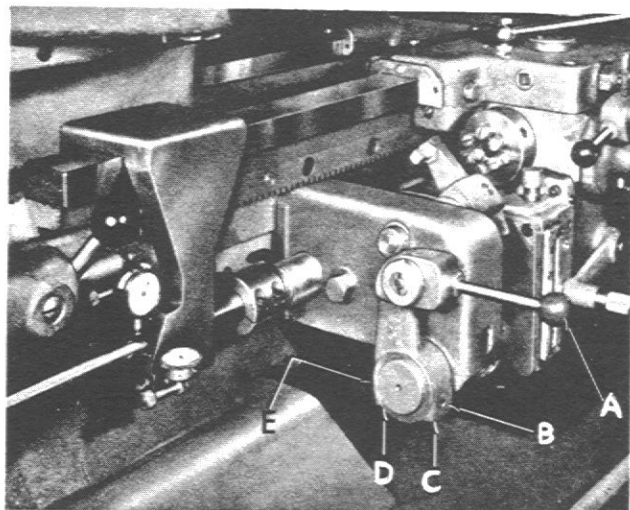

Figure 35
A. To obtain the proper engagement between the followers and the lead screw. (Refer to figure 35.)
2. Place two indicators so that they contact the feed rod between the carriage and the feed gear train. Position one indicator against the top and the other indicator against the side of the feed rod as shown in figure 35. These will measure vertical and horizontal deflection respectively.